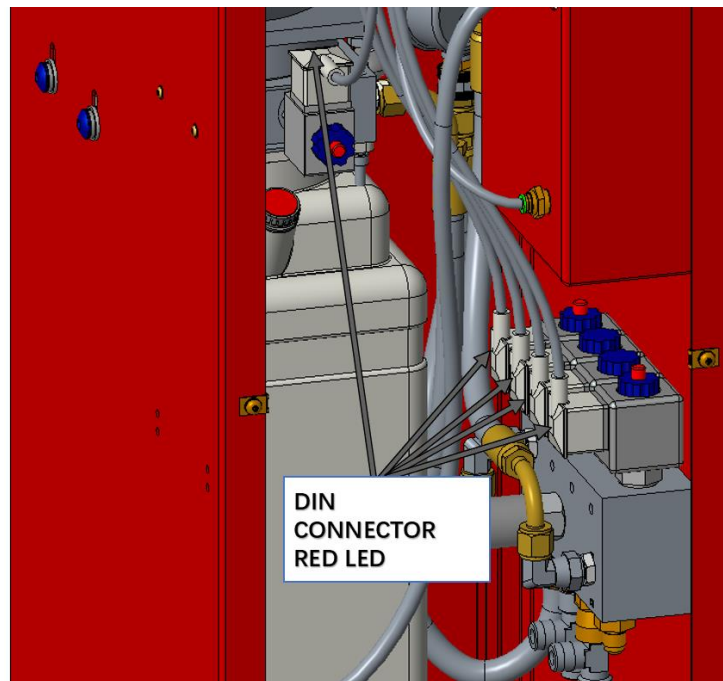

Figure 20 - Din Connector/Solenoid assemblies.
To verify that the pneumatic switches are functioning, remove the rear panel on the console and locate the five (5) Din Connector/Solenoid assemblies; (four (4) on manifold block and one (1) on the pump). When the lift reaches its fully lowered position, these din connectors will emit a red light for 3 to 5 seconds. (see Figure 20).